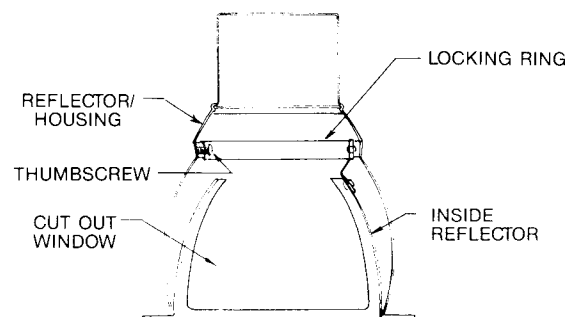

FIG. 5
2. To install INSIDE REFLECTOR in REFLECTOR/HOUSING with THUMB SCREWS (Fig. 5), push INSIDE REFLECTOR up into REFLECTOR/HOUSING. Rotate INSIDE REFLECTOR so that CUT OUT WINDOW is always opposite the wall to be lighted. Now, tighten the THUMBSCREWS so that INSIDE REFLECTOR is held firmly against ceiling surface.